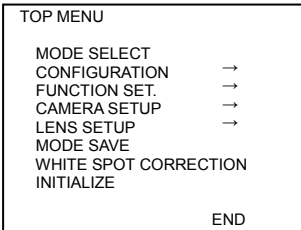

Figure 7-1 TOP MENU
2. The settings screen shown in figure 7-1 is displayed.